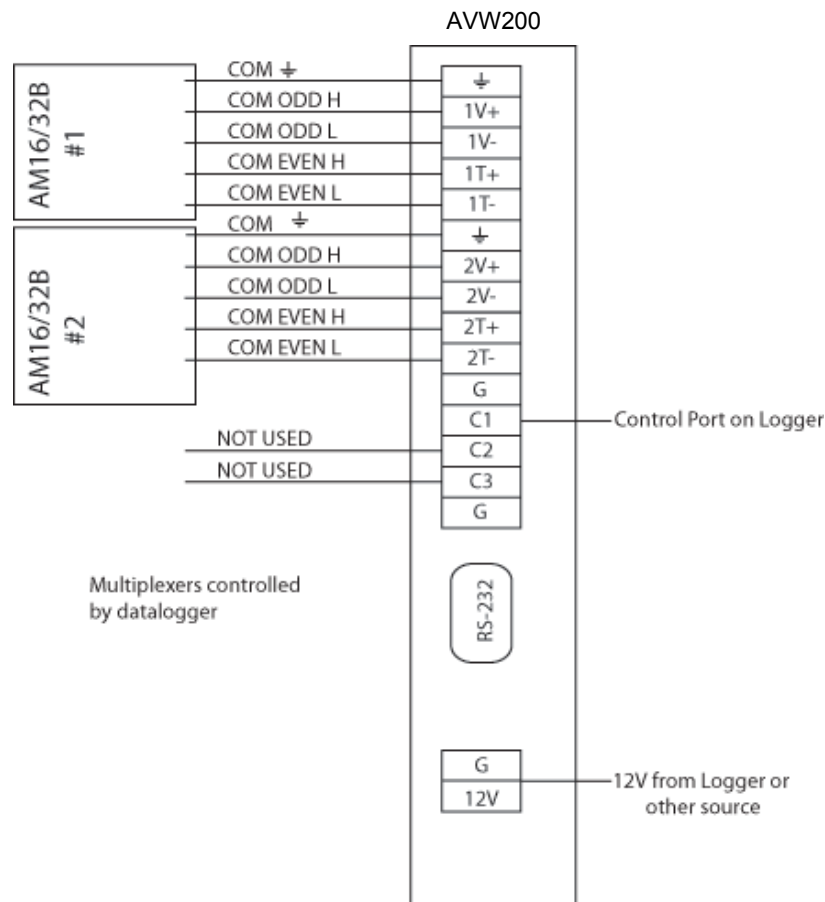

FIGURE 4-5. AM16/32B to AVW200 Hookup (AM16/32Bs controlled by datalogger and using SDI-12)
2. Use a CABLE4CBL-L cable to connect the AVW200 to the multiplexers (see FIGURE 4-5).
When using SDI-12, the datalogger must control the multiplexer. Use the CABLE4CBL-L cable to connect the AVW200 to the multiplexer if the vibrating wire sensors contain a thermistor (see FIGURE 4-5). Use the CABLE3CBL-L or equivalent cable if the vibrating wire sensors do not contain a thermistor. The CLK and RESET lines on the multiplexer are used instead of the CLK and RESET lines on the AVW200.